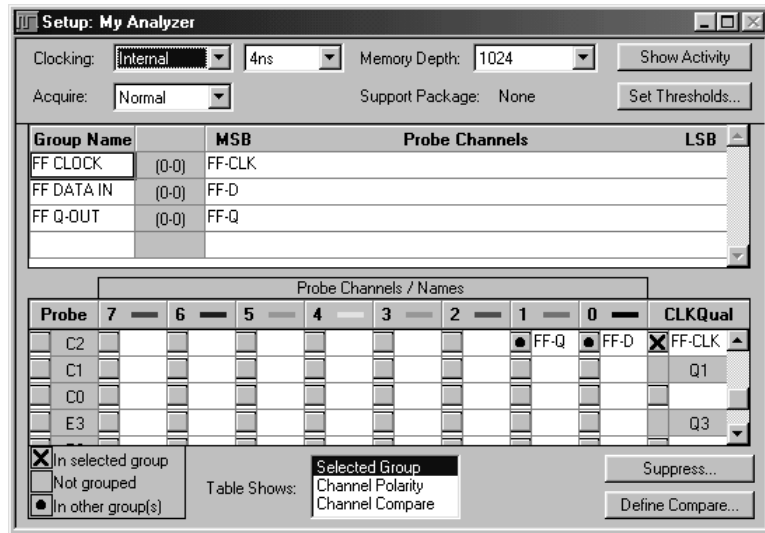

Figure 2–15: Channel setups for Exercise 2
1. Open the Setup window to see how the probe channels are defined and labeled for this exercise. Figure 2–15 shows an example of the Setup window.